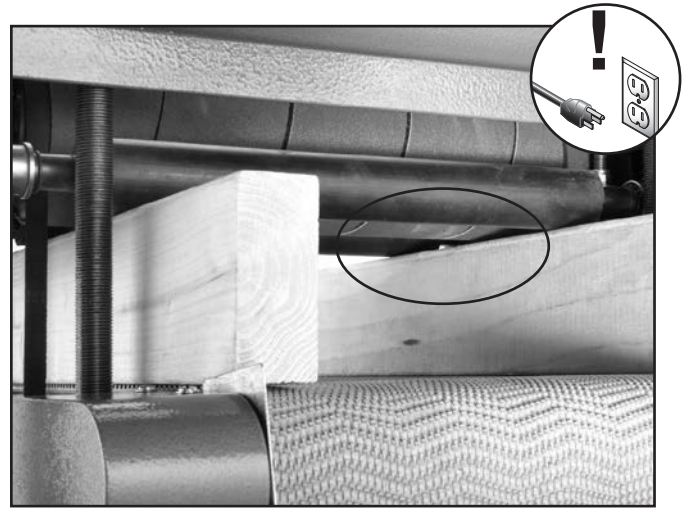

Figure 37. Pressure rollers set correct distance below bottom of sanding drum.
- Repeat **Steps 6–7** with the second pressure roller. Each pressure roller should look like **Figure 37** when properly adjusted.